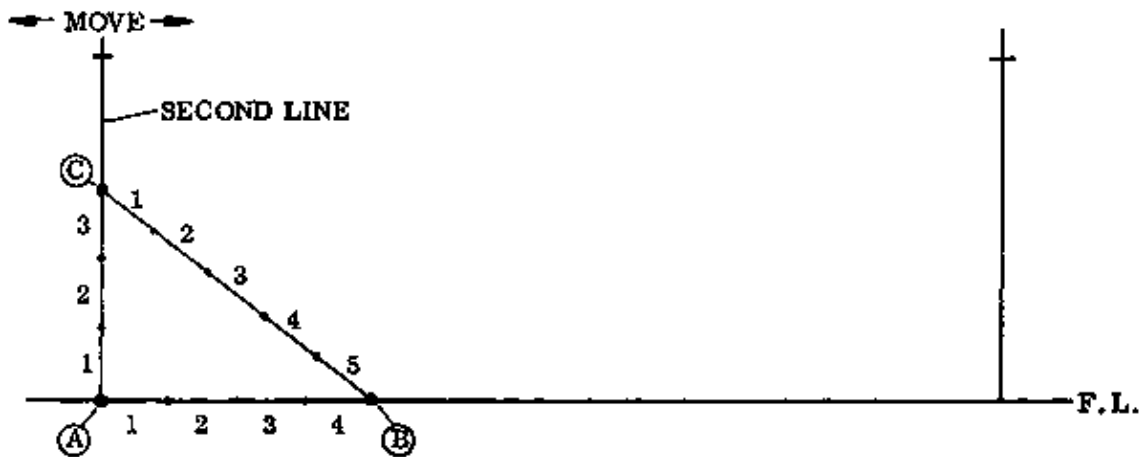

Fig. 2 3–4–5 METHOD
– Measure a distance of 4 m along the front line starting from point A, and mark this on the line (point B) (Fig. 2).